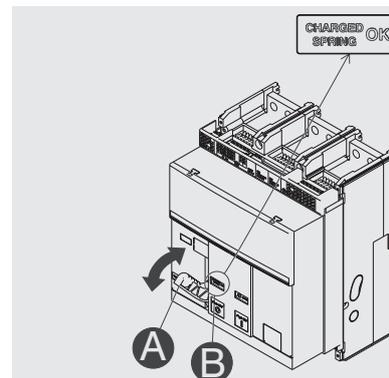

Figure 39
2. Charging the springs - Pull the lever [A] downwards several times until the springs charged signalling device [B] is "yellow - CHARGED SPRING" as indicated in Figure 39.